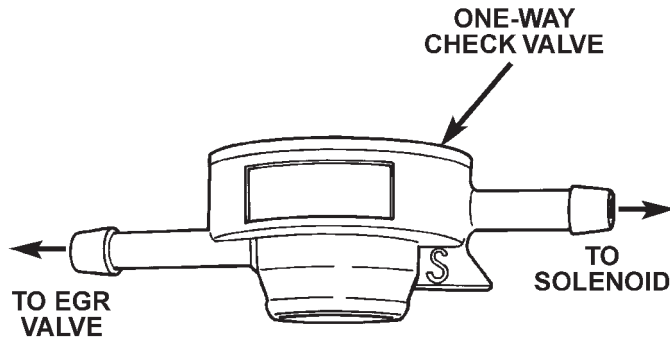

Fig. 7 One-Way Check Valve
(6) Disconnect the vacuum lines at both ends of check valve and remove valve from vehicle.
(7) Attach a hand-operated vacuum pump equipped with a vacuum gauge to the inlet fitting on check valve (to solenoid). The inlet end of fitting is marked with an S (Fig. 7).